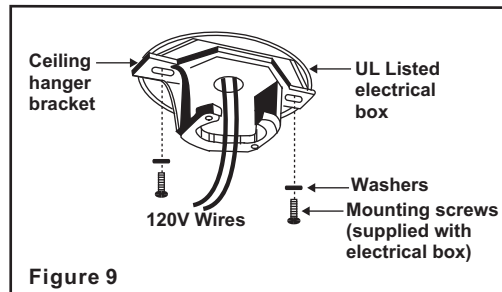

Figure 9
Step 3. Pass the 120-volt supply wires through the center hole in the ceiling hanger bracket as shown in Fig. 9.